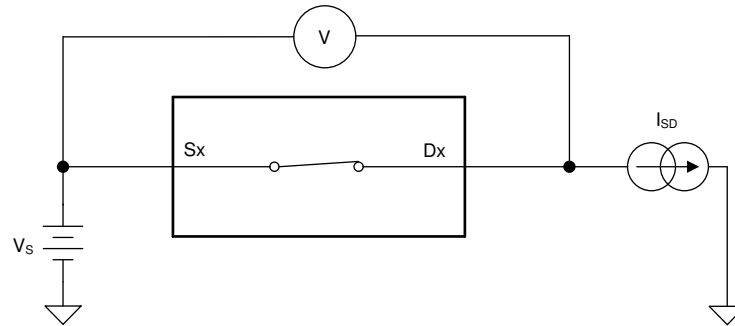

图 16. On-Resistance measurement setup
The on-resistance of a device is the ohmic resistance between the source (Sx) and drain (Dx) pins of the device. The on-resistance varies with input voltage and supply voltage. The symbol R_{ON} is used to denote on-resistance. The measurement setup used to measure R_{ON} is shown in 图 16. Voltage (V) and current (I_{SD}) are measured using this setup, and R_{ON} is computed with $R_{ON} = V / I_{SD}$: